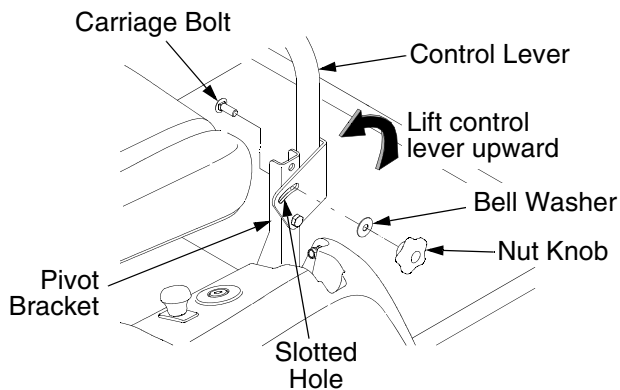

Figure 2
- Remove the nut knob, bell washer, and carriage bolt from either of the two control lever pivot brackets. Refer to Figure 2.
- Lift and swing that control lever upward until the slotted hole in the lever bracket aligns with one of the holes in the pivot bracket. Refer to Figure 2.
- From the inside, insert the carriage bolt into the pivot bracket and through the control lever slot. See Figure 2.
- Slide the bell washer onto the carriage bolt, then thread the nut knob onto the bolt. Fully tighten the knob to temporarily secure control lever (See Figure 2). Refer to "Adjusting the Drive Control Levers" in Section 3 for instructions on final adjustment of the levers.